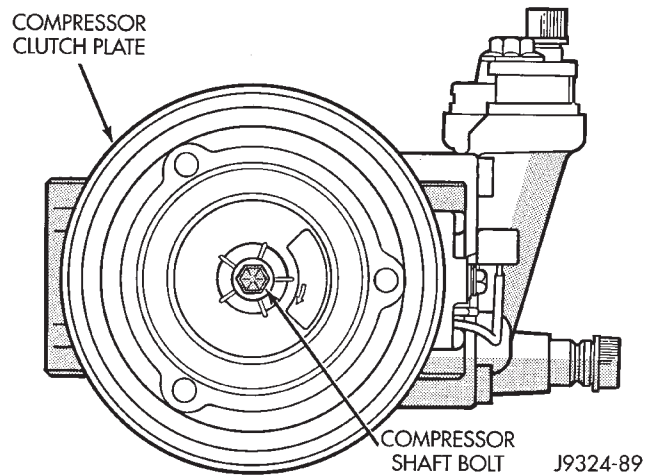

Fig. 31 Compressor Shaft Bolt
(1) Disconnect and isolate the battery negative cable.
(2) Remove the serpentine drive belt. Refer to Group 7 - Cooling System for the procedures.
(3) Remove the bolt that secures the compressor clutch to the compressor shaft (Fig. 31). A band-type